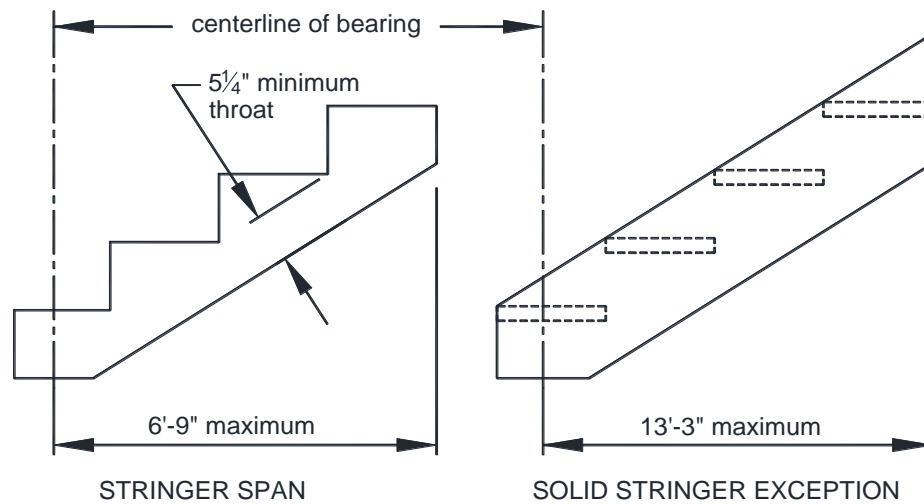

FIGURE 41: MAXIMUM STRINGER SPAN LENGTH
- Stringer span length is measured using the horizontally projected distance between the bearing at each end and shall not exceed the dimensions shown in FIGURE 41.
SOLID STRINGER EXCEPTION: Solid stringers of stairways with a width equal to 36 inches shall be permitted to have a span as shown in FIGURE 41.
- Throat size of cut stringers shall not exceed the value shown in FIGURE 41.